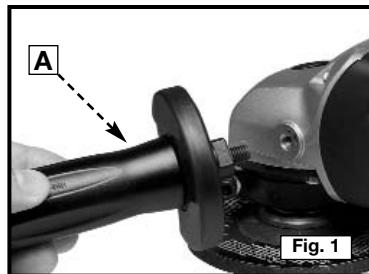

Fig. 1
An auxiliary handle (A) Fig. 1 is furnished with this tool and can be installed on either side or on top of the front housing. **THIS HANDLE SHOULD BE USED AT ALL TIMES TO MAINTAIN COMPLETE CONTROL OF THE MACHINE.**